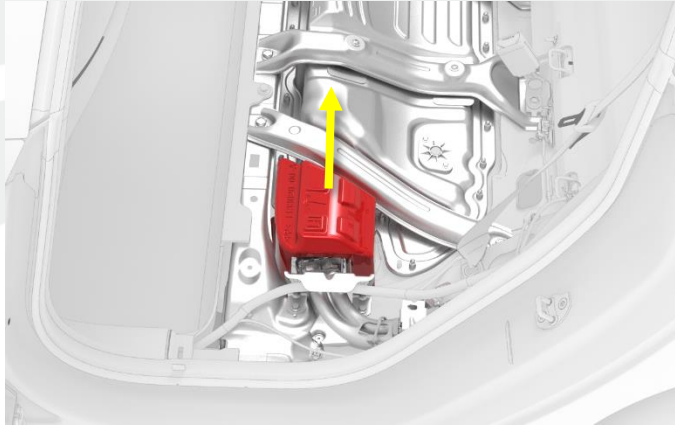

Figure 1
5. Lift the HV cap straight up from over the DC input connector on the LH side of the penthouse (Figure 1), and then remove the HV cap from the vehicle.